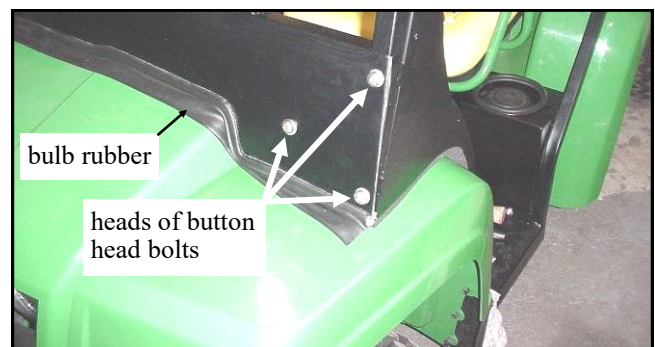

Fig. 12.1
12.1 Install the cowl to the side frames as shown in figure 12.1. Make sure the bulb rubber is laying forward towards the front of the vehicle as shown. The two outboard bolts go into factory installed threaded inserts in the side frames. Use two $5/16 \times 3/4$ " long button head bolts, two plastic washers, and two steel washers per side.
12.2 Connect the cowl to the front brackets using one button head bolt $5/16 \times 3/4$ " long, one plastic washer, two steel washers, and one locknut per side. Bolt heads to be facing towards the front of the vehicle. Note: a screwdriver or similar device may be used to assist in lining up these last two holes with their respective holes in the front brackets. See fig. 12.1.